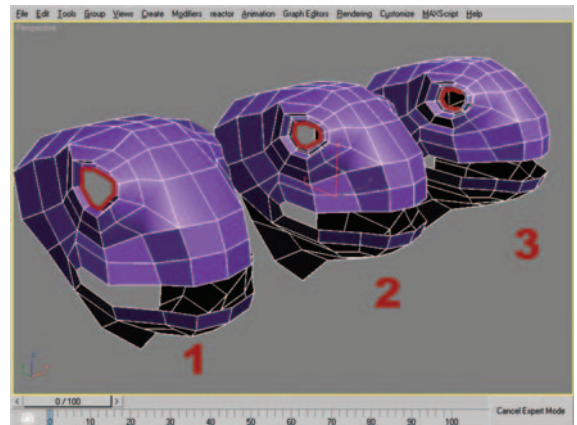

Figure 9.24 Border selection (1), shift-scaled border (2), and shift-dragged border (3).
24. With the border still selected (mesh 1), shift-scale the border selection as seen in Figure 9.24 (mesh 2). Then shift-drag the border selection inward (mesh 3).